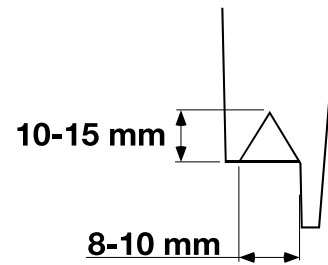

Fig 10.
- d Fit the pre-cut nozzle. → Fig 10. \(□ B-23\).